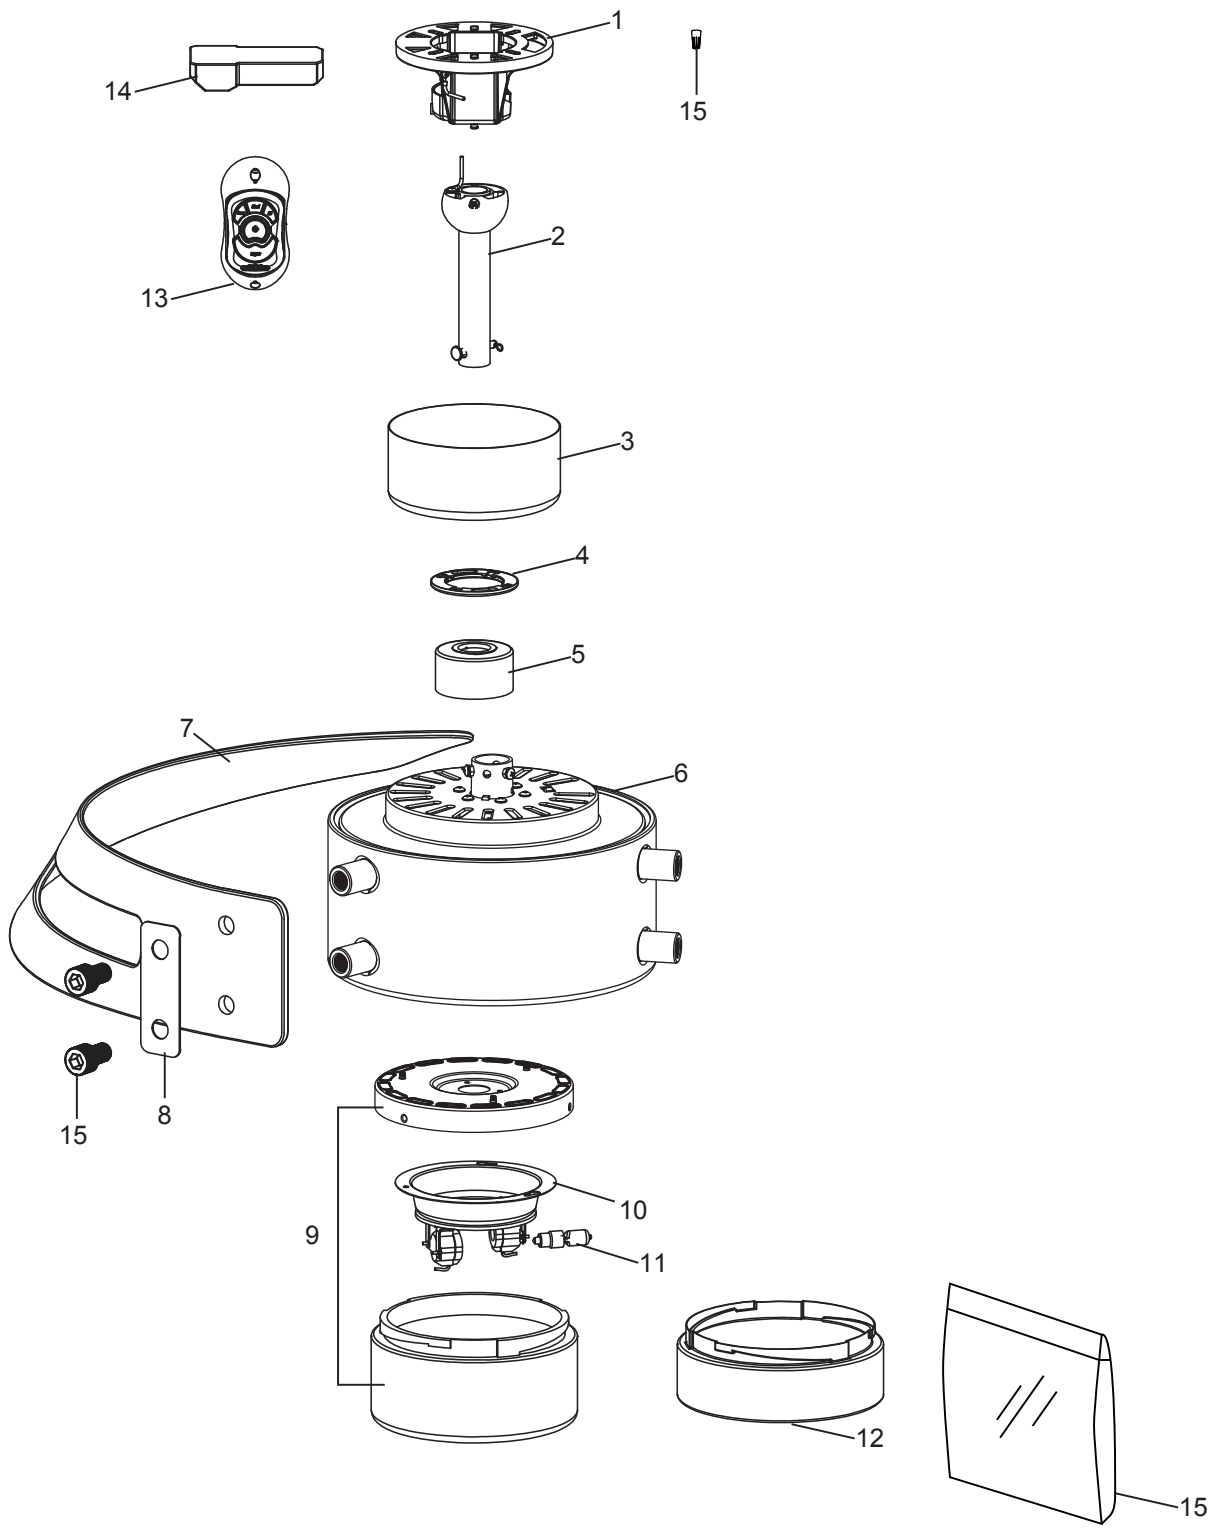

Figure 1
1. Unthread two screws from the wall switch plate. (Figure 1)
1. Drill two 1/4" holes in the wall and push the M6 plastic anchors into the holes. Install the control bracket using the two #3 - 1" self tap screws. Push in the four plastic plugs to cover the screw holes. (Included in the control packaging). (Figure 1)